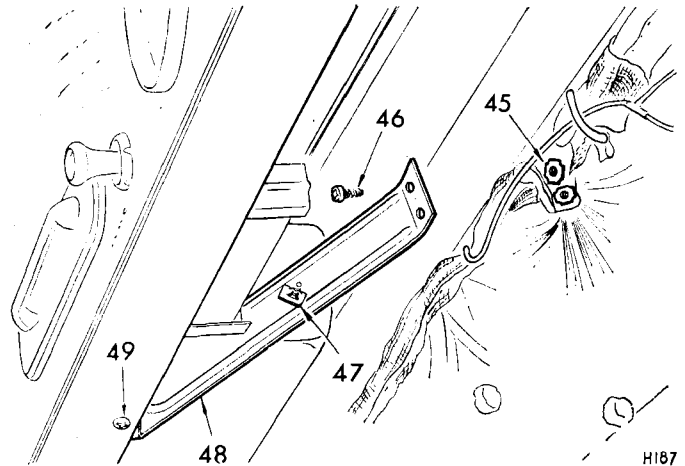

Fig. 71. Glove box bracket attachment
- screws (46) securing the glove box bracket (48) to the bulkhead (Fig. 71);
- screws (32) securing facia top edge and trimsters to the windscreen (lower) (Fig. 71)
—screws (36) securing the steering column assembly to the bulkhead (Fig. 71)